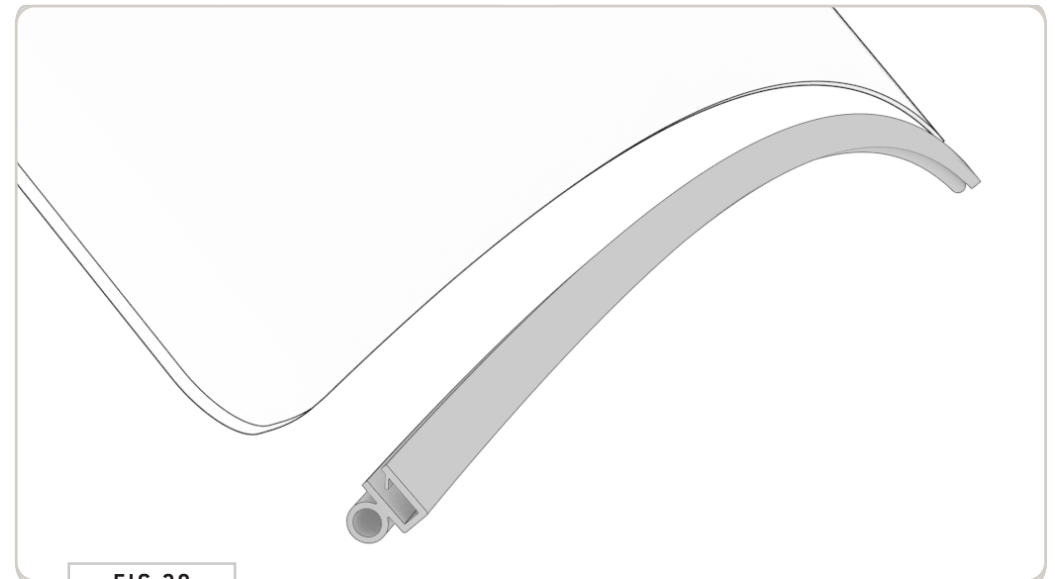

FIG 20
**5.5 Attach Trim Gasket:** Complete the assembly by attaching the **Trim Gasket (FIG 20)**. Make sure that the "bulbed" side of the trim is facing the Crossbar, as that will be the part that sits against the van.